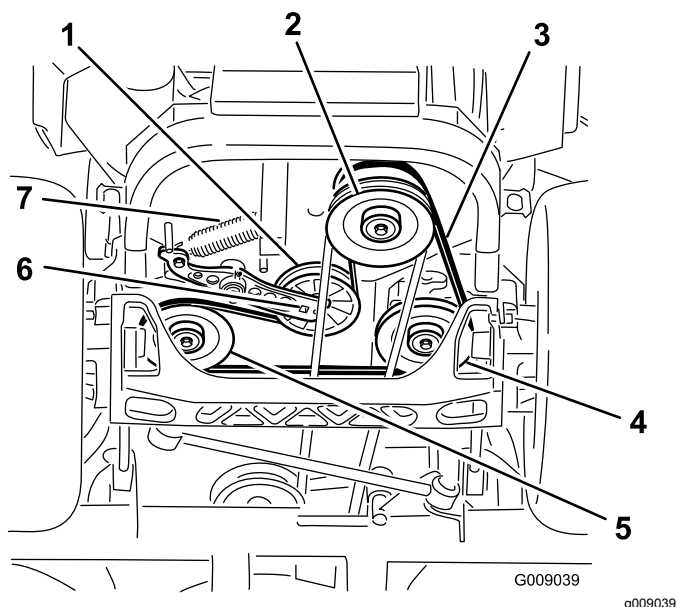

**Figure 76**
12. Install the belt covers (Figure 76).